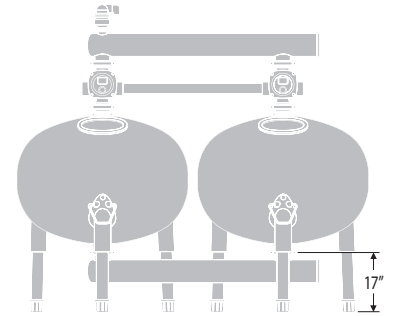

FIGURE 1 - Height above ground level
- Determine the correct filter height. Note: With the legs inserted as provided, the outlet will be approximately 17" above ground level. If the battery height needs to be lower, for example retrofitting to an existing system, the legs may be cut to size. See Figure 1.